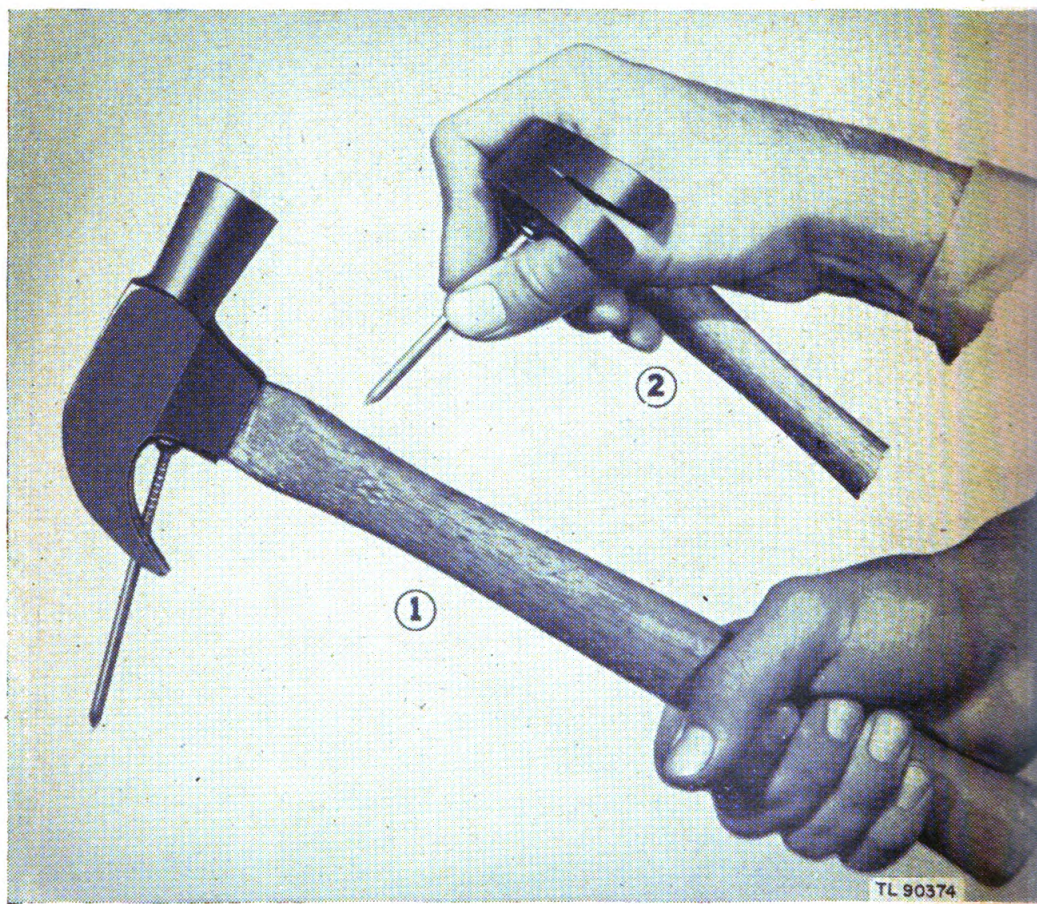

Figure 3.1 (Added.)
If it is necessary to hammer a nail with the use of only one hand, proceed as follows: insert the nail between the hammer claws (fig. 3.1①), with the head of the nail against the base of the hammer head, so that the nail remains rigidly in position. Drive the nail deep enough with the first blow so that it will remain in the wood until struck again with the face of the hammer.
Another method for hammering a nail with one hand is shown in figure 3.1②. Grasp the hammer head so that the side of it will be used for driving. Hold the nail head against the side of the hammer, and drive the nail deep enough with the first blow so that it will remain in place to be struck again in the usual manner.